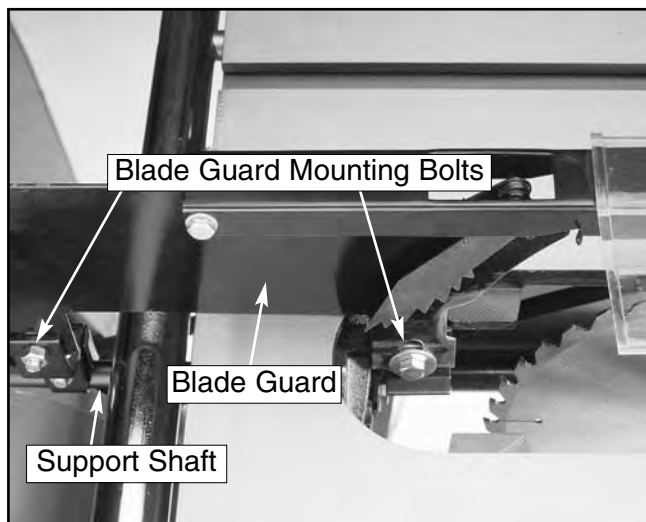

Figure 26. Blade guard components.
3. Slip the slots at the bottom of the guard over the two mounting bolts as shown in **Figure 26**. The washers should be between the bolt head and the slots. Rotate the support shaft to align the mounting bolts to the mounting slots on the guard.